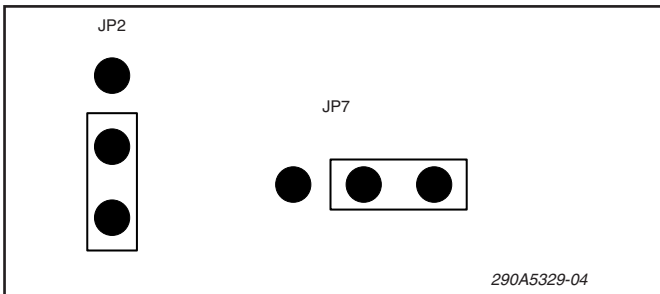

Figure 4.
- a. See figure 4. Ensure that jumpers JP2 & JP7 are installed as indicated